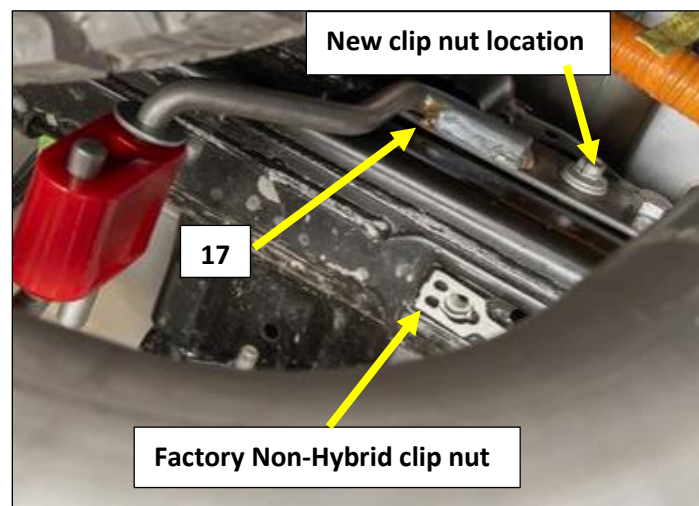

Figure 12
Note: Standard F150 models may already be in the correct location. PowerBoost clip nuts will move from the bottom of the frame rail to directly above and to the inside of the frame rail as shown. See **Fig 12** as reference.
3. Install the 535HA (17) frame hanger on to the inside left frame rail using the OEM mounting bolt. **Fig. 12**